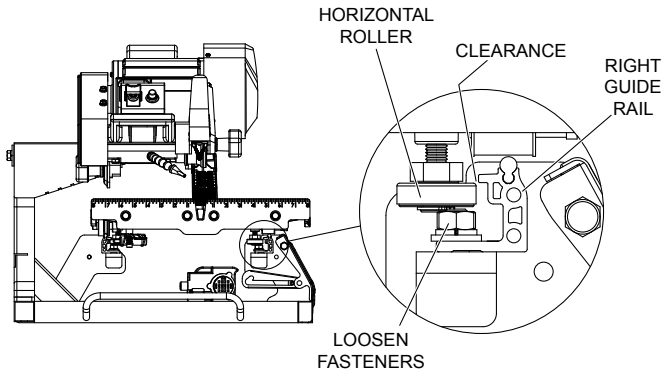

**Figure 24. Adjust Right Guide Rail**
7. Adjust the right guide rail so that the horizontal rollers underneath the table engage the rail as shown in Figure 24. In most cases the rollers will not have to be vertically adjusted. Spacing between rails must be equidistant at all points to ensure that they are parallel. Once adjustments are made, lightly tighten the fasteners on the right rail and move the table back and forth. If the table binds against the rail at any point, adjust spacing accordingly until the table moves smoothly.
4. After adding shim(s), mount the table onto the guide rails by reversing the instructions in step 2. Move the rails toward each other to engage the horizontal rollers to the right guide rail as shown in Figure 24. Realign the table to the blade using Method 1. Check to see if any shifting persists. A shift tolerance of 0.2mm (.008 in.) is allowed. A shift in excess of that will require further adjustment—repeat step 3.
4. Restore the horizontal rollers to their original positions as shown in Figure 24 by reversing the instructions in step 1. Be sure to tighten the lock nuts and replace the rubber caps.